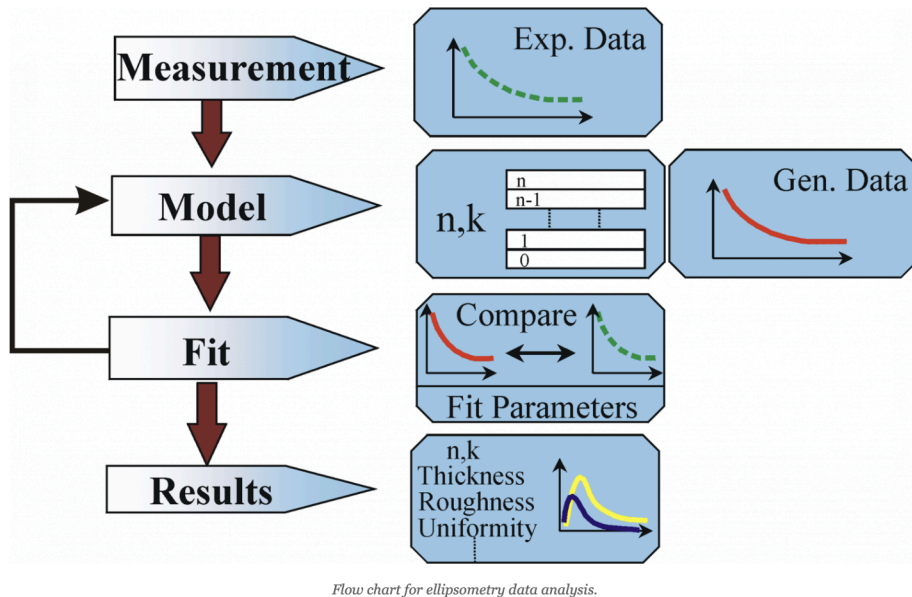

Figure 11: Data Analysis Flow from J.A. Woollam
- 8.4. Ellipsometry can take a bit of practice and iteration to get the best information for your sample. The J A Woollam website has additional resources to learn about what is going on behind the scenes, but in general the process is as depicted in **Figure 11**. Once you take measurements using the tool, you can transfer your data via flash drive and take it to the computer in the bull pen area to analyze it further.